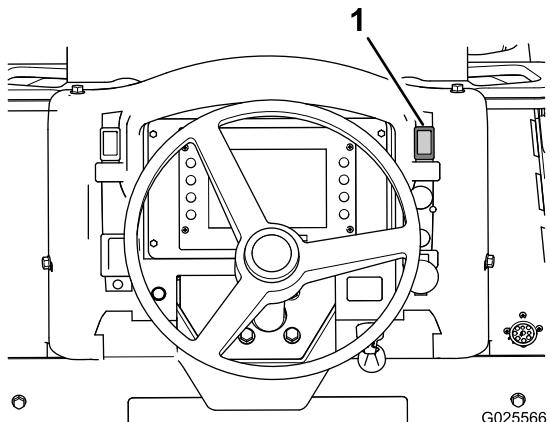

Figure 44
- Toggle the parking-brake switch (Figure 44) up to apply the parking brake.